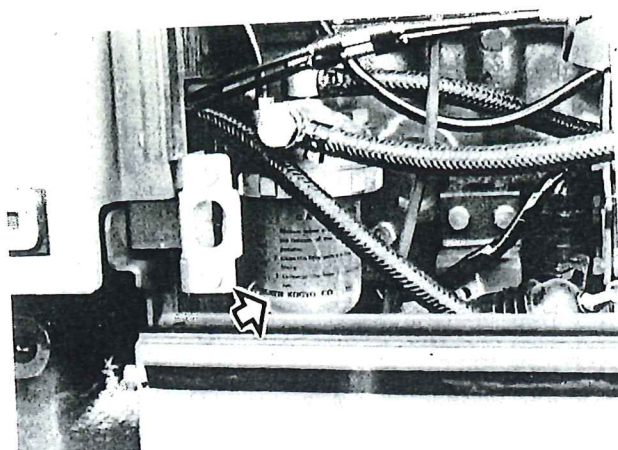
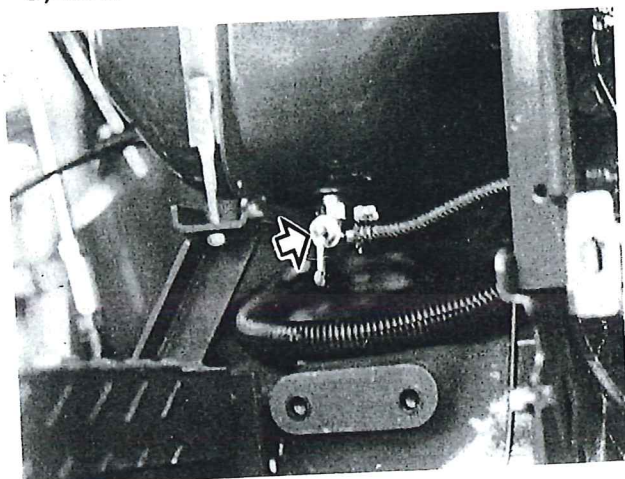

Figure 41 — Fuel Filter
Figure 42 — Fuel Shut-off Valve
1. Be sure there is adequate fuel in the fuel tank, close the fuel shut-off valve, Figure 42 then remove the fuel sediment bowl, Figure 41.
1. Close the shut-off valve, Figure 42.
2. Remove the sediment bowl, Figure 41.